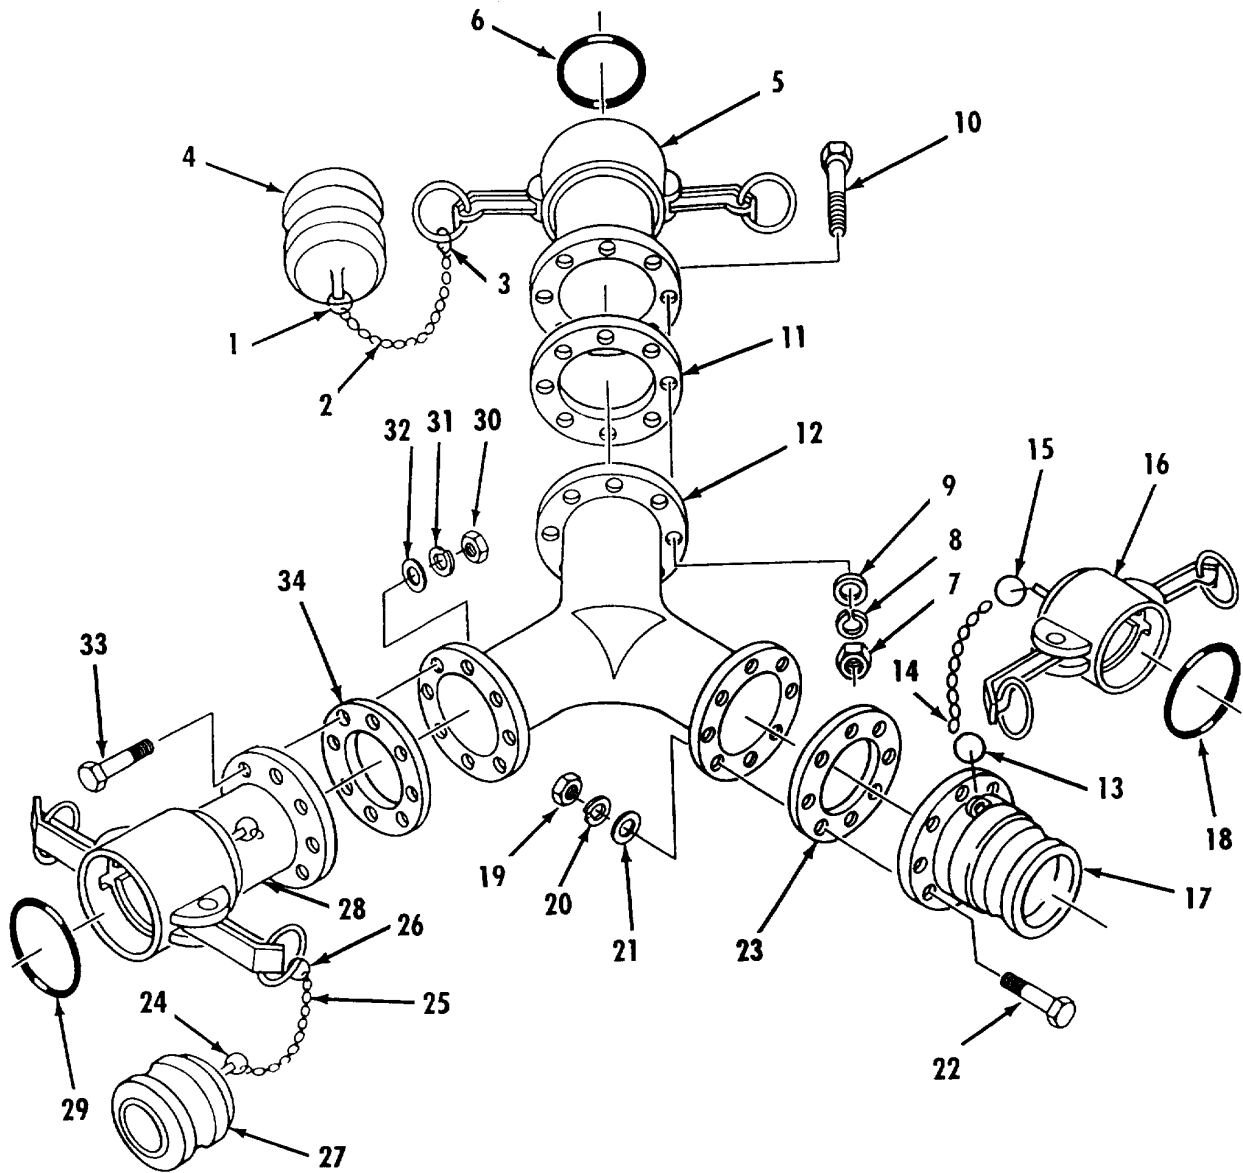

Figure 4-12. Wye Assembly Repair.
a. Disassembly. Refer to figure 4-12.
- (1) Disconnect split ring (1), chain (2), and split ring (3) from dust plug (4) and female coupling (5).
- (2) Remove dust plug (4) from female coupling half (5).
- (3) Remove gasket (6) from female coupling half (5).
- (4) Remove twelve nuts (7), lockwashers (8), flat washers (9) and cap screws (10).
- (5) Separate female coupling half (5) and flange gasket (11) from wye (12).
- (6) Disconnect split ring (13), chain (14), and split ring (15) from dust cap (16) and male coupling half (17).
- (7) Remove dust cap (16) from male coupling half (17).
- (8) Remove gasket (18) from dust cap (16).
- (9) Remove twelve nuts (19), lockwashers (20), flat washers (21) and cap screws (22).
- (10) Separate male coupling half (17), flange gasket (23) from wye (12).
c. Repair. Replace damaged or defective parts. Replace all sealing components.d. Assembly. Refer to figure 4-12.
- (1) Position flange gasket (34) and female coupling half (28) on wye (1).2).
- (2) Install twelve cap screws (33), flat washers (32), lockwashers (31) and nuts (30). Tighten nuts evenly in a cross pattern.
- (3) Install gasket (29) in female coupling half (28).
- (4) Install dust plug (27) in female coupling half(28).
- (5) Connect split ring (24), chain (25) and split ring (26) to dust plug (27) and female coupling half(28).
- (6) Position flange gasket (23) and male coupling half (17) on wye (12).
- (7) Install twelve cap screws (22), flat washers (21), lockwashers (20) and nuts (19). Tighten nuts evenly in a cross pattern.
- (8) Install gasket (18) in dust cap (16).
- (9) Install dust cap (16) on male coupling half (17).
- (10) Connect split ring (13), chain (14) and split ring (15) to dust cap (16) and male coupling half(17).